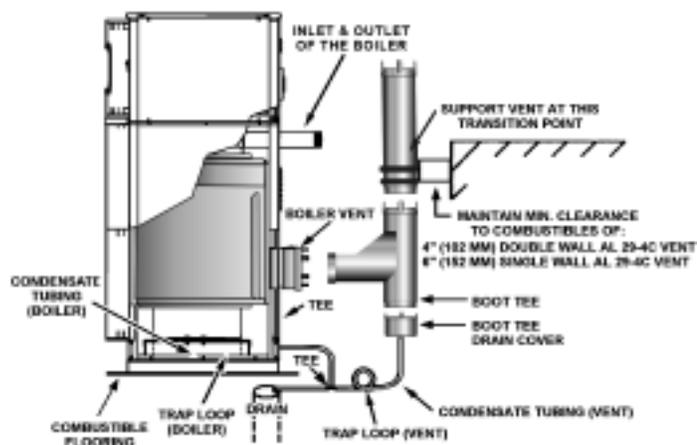
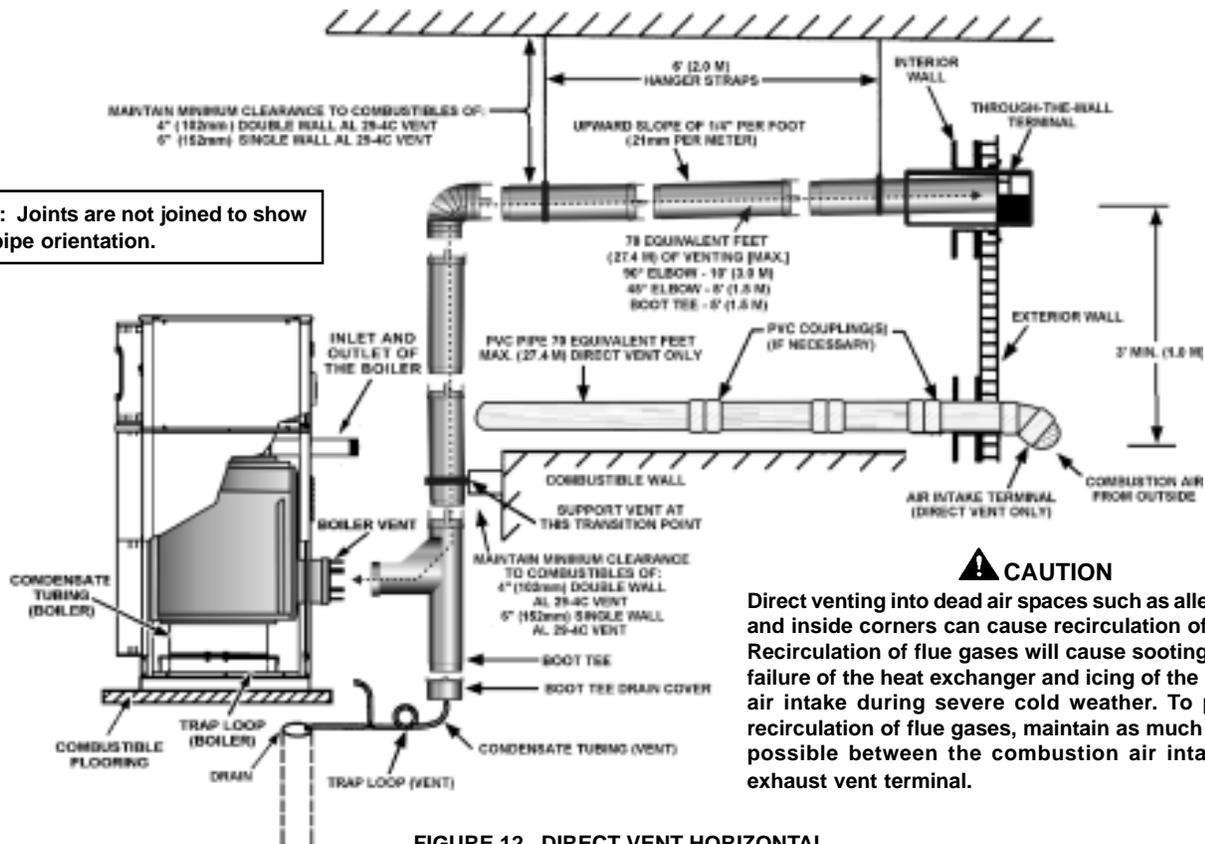

Figure 10.
FIGURE 12. DIRECT VENT HORIZONTAL.
3. **Horizontal Direct Vent** - using TWT to exhaust flue products and PVC piping to bring combustion air to the boiler from the outside, see Figures 12 and 12C.
At the outlet of the boiler vent, see Figure 10, the AL 29-4C® Vent Boot-Tee and Boot-Tee Drain Cover must be used as the transition
1. Attach the Boot Tee Drain Cover to the appropriate leg of the Boot-Tee, see Figure 10.
2. A trap loop must be formed into the drain tube simply by looping the tube to a minimum 3 inch (76mm) diameter and secure the loop with a cable tie, see Figure 10.
4. Connect the Boot-Tee and Drain Tee assembly to the boiler vent connector, see Figure 10.
The support brackets (supplied in the Vertical Support Kit) are to be securely fastened to a solid vertical member of the building using the appropriate fasteners; i.e., wood screws for wood framing, machine or tapping screws for structural steel or masonry anchors for solid masonry. The bracket should be located so that it will not interfere with any joints of the venting system. The bottom most support bracket should be located directly above the first transition from horizontal to vertical, see Figure 10. Refer to Figures 12, 12A, 12B and 12C.